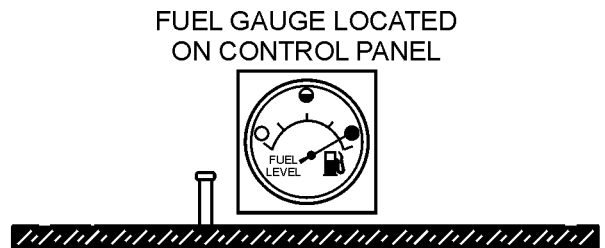

Figure 31. Full Fuel Tank
5. **NEVER overfill fuel tank** — It is important to read the fuel gauge when filling trailer fuel tank. **DO NOT** wait for fuel to rise in filler neck (Figure 31).